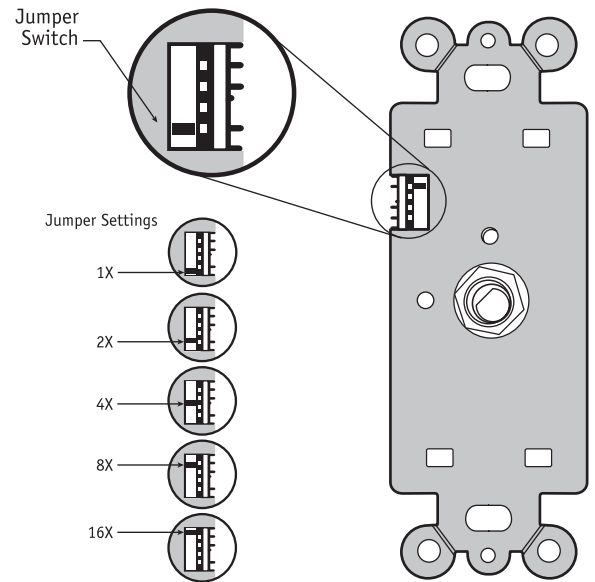

Figure 1
- 4.) Set the impedance match jumpers on all of the volume controls in the system to the same position (1X, 2X, 4X, 8X or 16X). See Figure 1.
NOTE: If your jumper setting switch only has four positions it may not include the 1X setting that was excluded in early production. Also some earlier production models may not show the settings on the faceplate so you will need to follow the positions shown in Figure 1 on other side of this page.